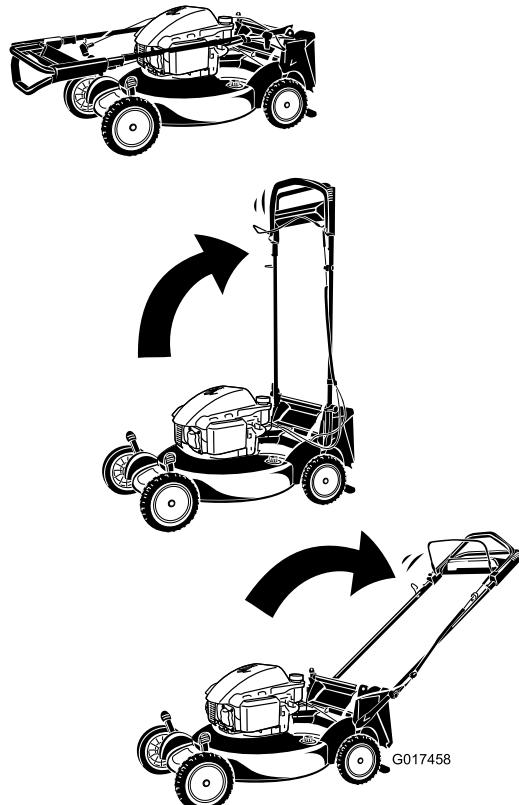

Figure 4
- Rotate the handle rearward (Figure 4).